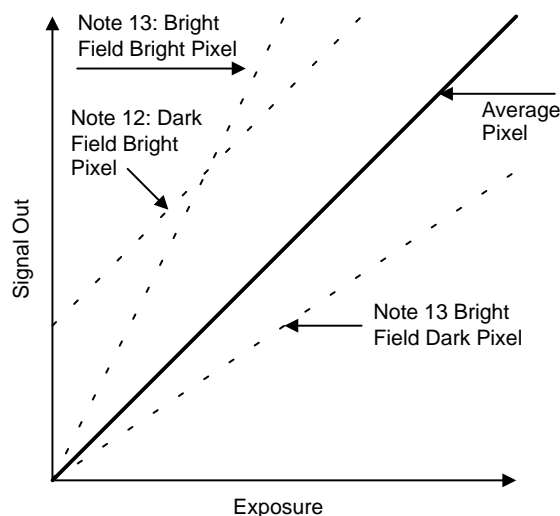

Figure 6. Defective Pixel Classification
12. Pixels whose response is greater than the average response by the specified threshold, (16 mV). See Figure 6.
13. Pixels, whose response is greater or less than the average response by the specified threshold, contained in the high frequency PRNU specification for that channel. See Figure 6.